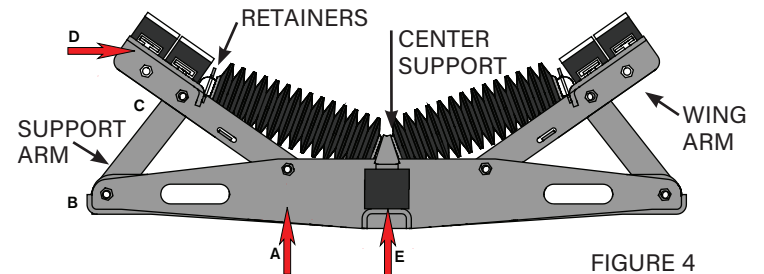

FIGURE 4
2. Loosen the Wing Arm pivot bolts (A in figure 4). Loosen these enough so that the Wing Arm will pivot, do not remove these bolts.
3. Remove the bolts at the foot pad (B in figure 4).
4. Remove the bolts where the Wing Arm and Support Arm meet (C in figure 4). The Wing Arm will remain supported by the Support Arm (BC) even with the bolts removed. If your TIS was supplied with a lift roll kit or kits, the lift roll and bracket will need to be removed.
13. Replace the support arms and insert the bolts and nuts.. Do not tighten the bolts and nuts at this point, the Support Arms should be held in place by the lip on the foot pad and the lip on the Wing Arm at B and C in figure 4. To insert the bolts onto the Wing Arm you may need to position yourself slightly lower than the Wing Arm to line up the holes for the bolts.